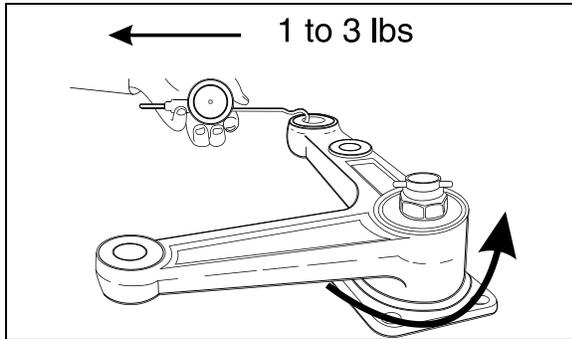

FIGURE 17: BELL CRANK 16045
2. Remove the cap (Fig.17).
3. Remove the cotter pin, nut and tongue washer. Remove bearings, grease seal, bearing bushing and the bell crank or idler arm from its mounting spindle (Fig. 17).